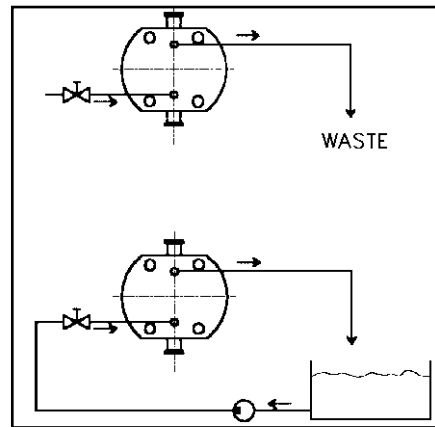

Figure 8 :
**Liquid Barriers:** The flushing liquid used must itself be compatible with the pumped fluid. Fluid should be connected to flow in at the lowest point on endcover and out at the highest point to vent air pockets. Barrier fluid maximum pressure for the end cover is 2 bar. (see figure 8).